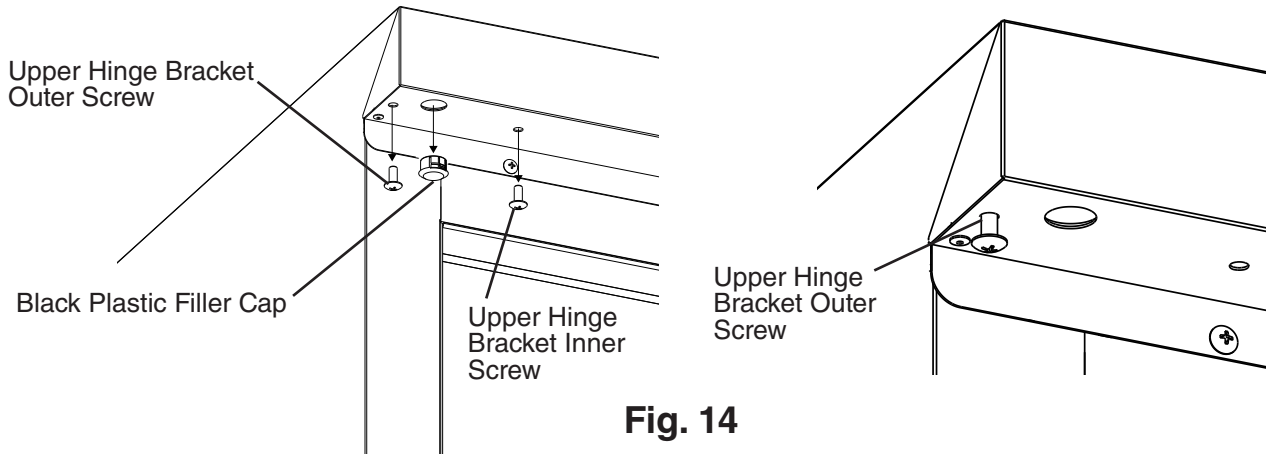

Fig. 14
- 13) Remove the upper hinge bracket screws from the new location and apply Loctite Threadlocker Blue 242 or 243 to the threads. Next, start the upper hinge bracket outer screw into the appliance. Rotate a few threads into the appliance; do not tighten the screw. See Fig. 14.